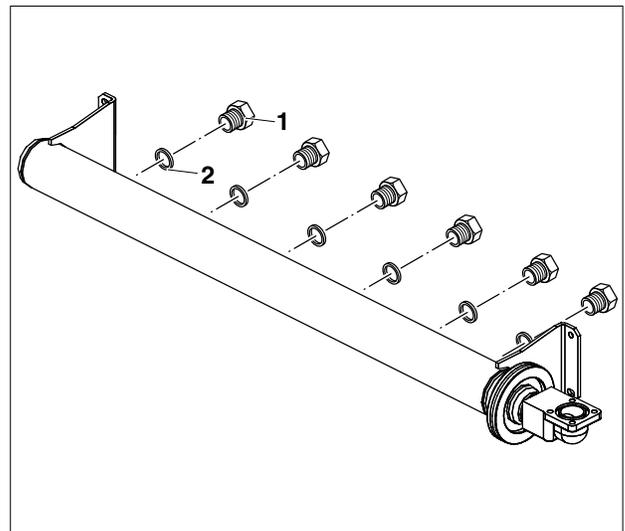

Fig. 6 Installation of the main orifices
14. Install the new main orifices (Fig. 6, **Item. 1**) and copper washers supplied with the kit (Fig. 6, **Item. 2**). Ensure orifices the proper size for your boiler application per Table. 1.